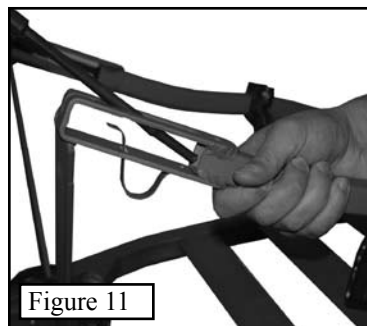

Figure 11
Step 2. Take one end of the cable around the tree and begin to slide it down into the tubing as shown in **Figure 11**.